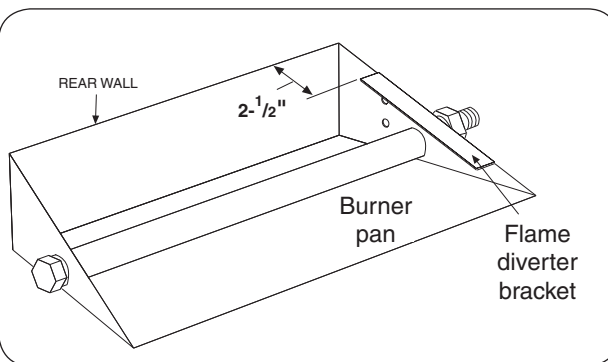

Fig. 7-3
1. Place the flame diverter bracket over the side edge of the burner pan, near the location the safety control system pilot bracket will be attached. It should be placed **approximately 2-1/2"** from the rear wall of the burner pan (see Fig. 7-3).